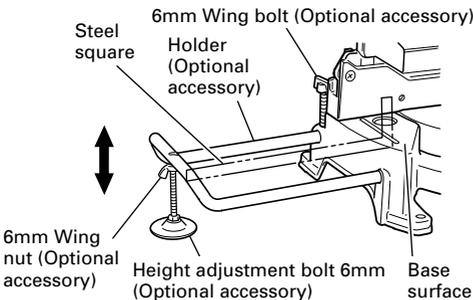

Fig. 17
- (1) As indicated in Fig. 17, use a steel square for aligning the upper edge of the holders with the base surface. Loosen the 6 mm wing nut. Turn a height adjustment bolt 6 mm, and adjust the height of the holder.